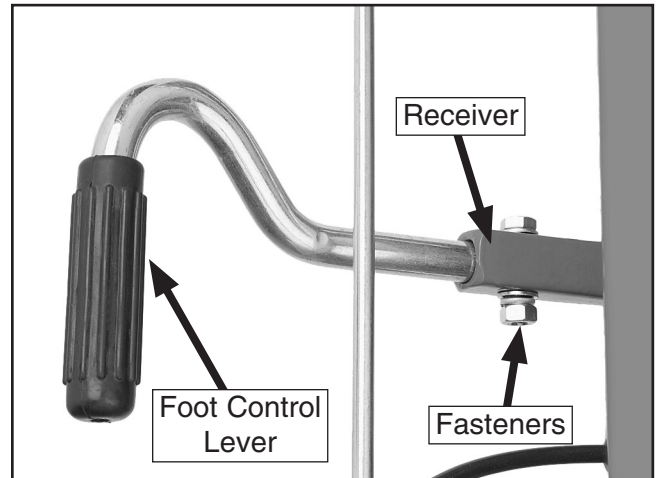

Figure 2. Foot control installed.
1. Insert the foot control lever into the square receiver and secure with the included fasteners, as shown in **Figure 2**.